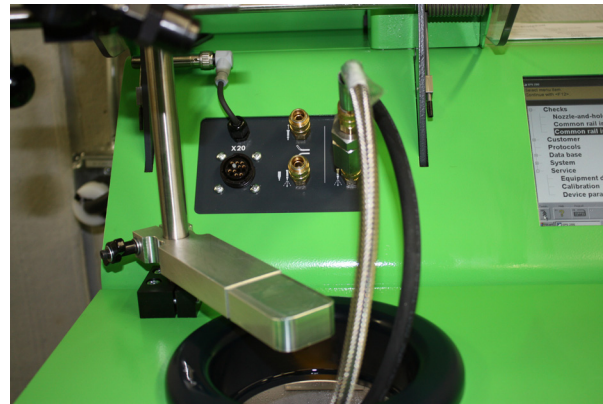

Figure 2
9. Install return hose 1 680 712 360 to the upper right return hose socket on the bench. Attach quick–connect fitting to return collector. (Figure 2)